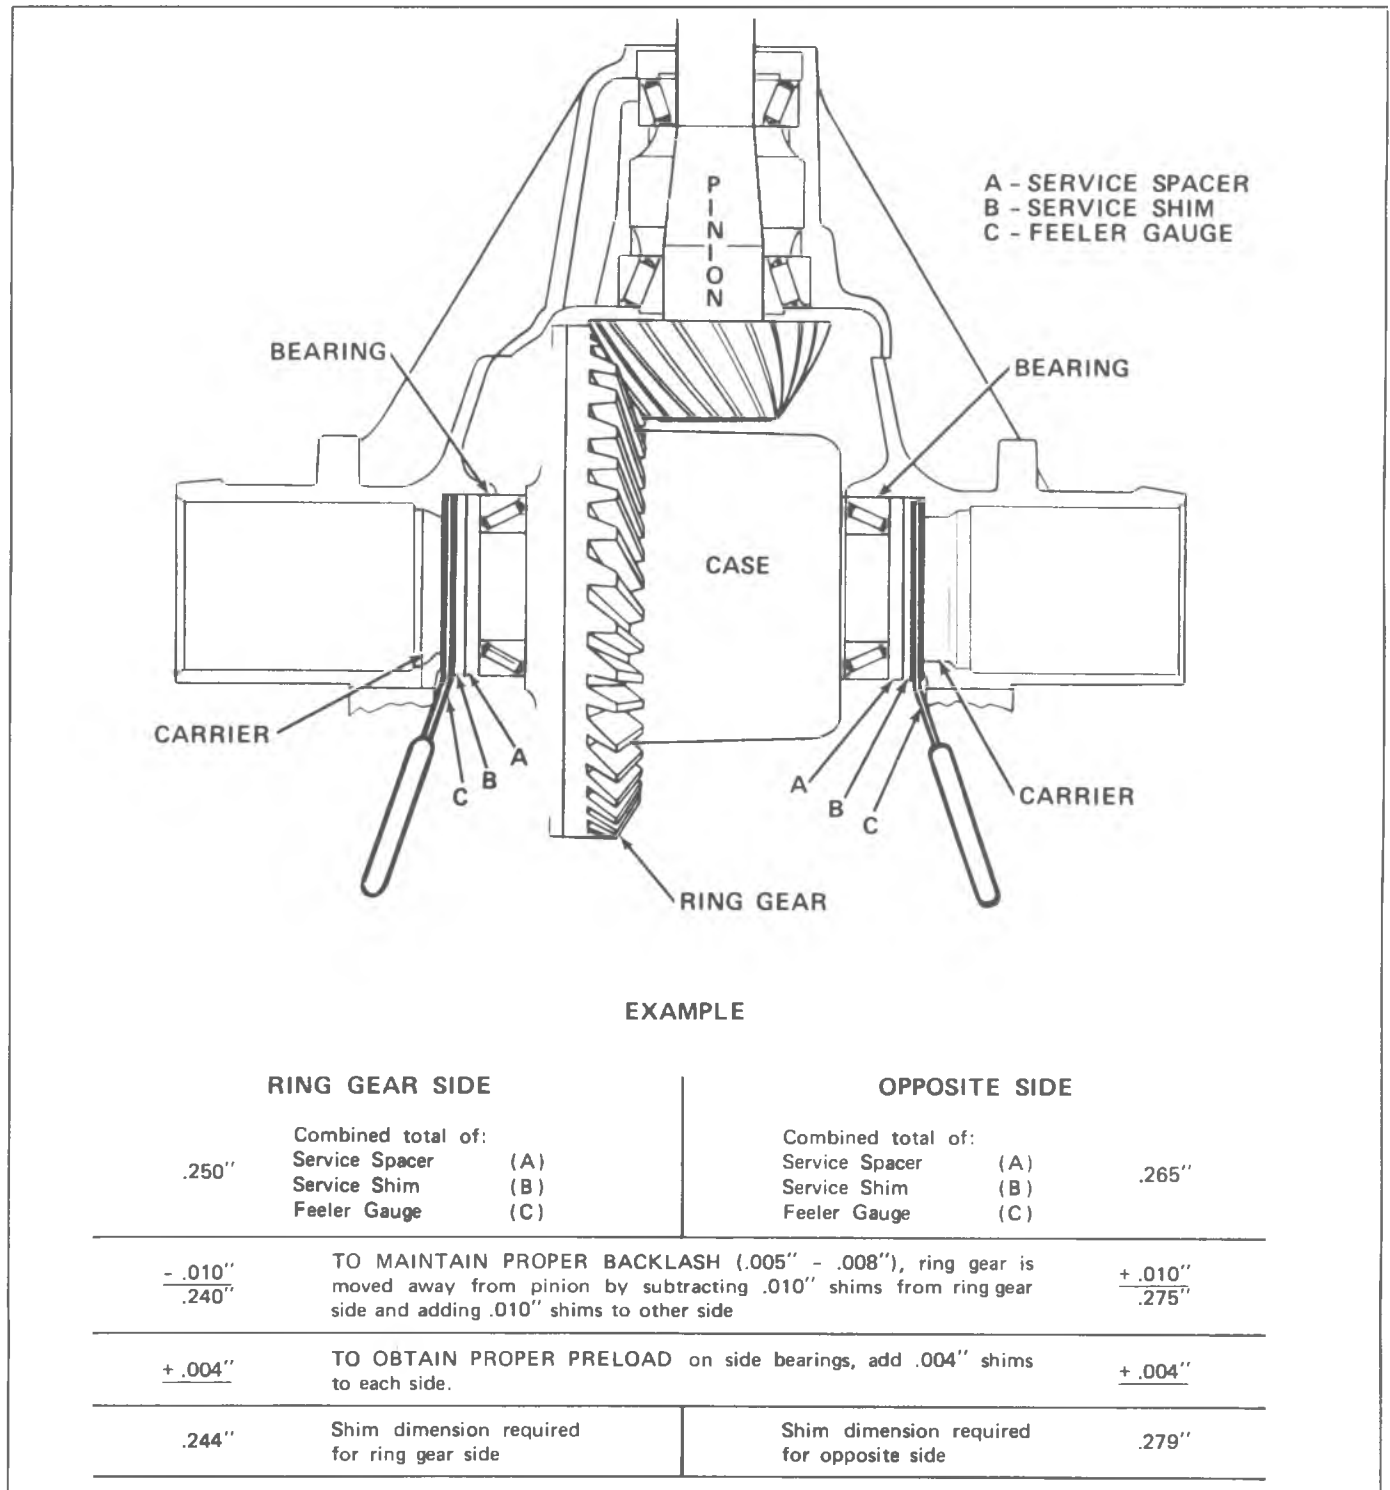

Fig. 4B-7--Determining Side Bearing Shim Requirements 7-1/2"
5. Thread end of J-8614-3 into small O.D. end of J-8614-2. Then with J-8614-11 installed as in step 3, insert J-8614-2 into J-8614-11 and turn it 1/8 of a turn to locked position. Remove flange by turning J-8614-3 while holding J-8614-11 as shown in figure 4B-14.
8. Tap the end of the pinion nut with a large hammer and a soft drift, as shown in figure 4B-15.
3. Remove rear pinion bearing from pinion shaft using rear pinion bearing remover J-8612 for the 8-1/2" ring gear, J-9746-02 for the 8-3/4" ring gear, and J-21493-01 for the 7-1/2" ring gear. See figure 4B-16.